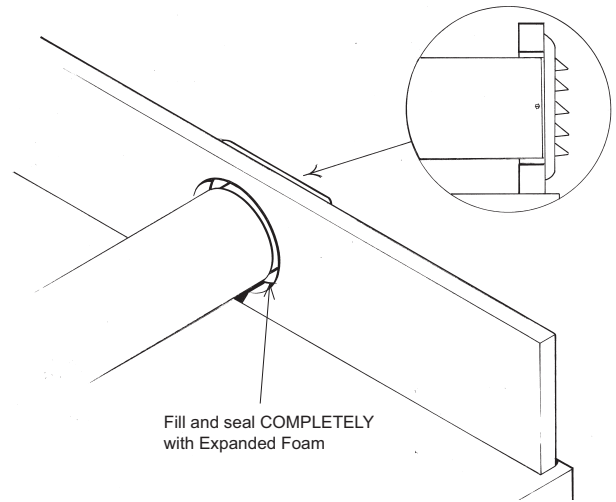

Figure 13
Determine outlet locations. Cut correct size hole. Cut a short piece of 6" round duct to connect to the fresh air inlet and exhaust air outlet hoods. For Model EERVR100 or EERVR200. Use 8" round duct for Model EERVR300. Secure duct to inlet and outlet hood duct collars with installer supplied fasteners. Install hood and ductwork through penetration. See figure 13 for sealing duct penetration and duct collar.
3. The two wires from the ERV should be attached to the 'C' and 'R' positions on the terminal block on the back of the PT Control. See Figure 13.